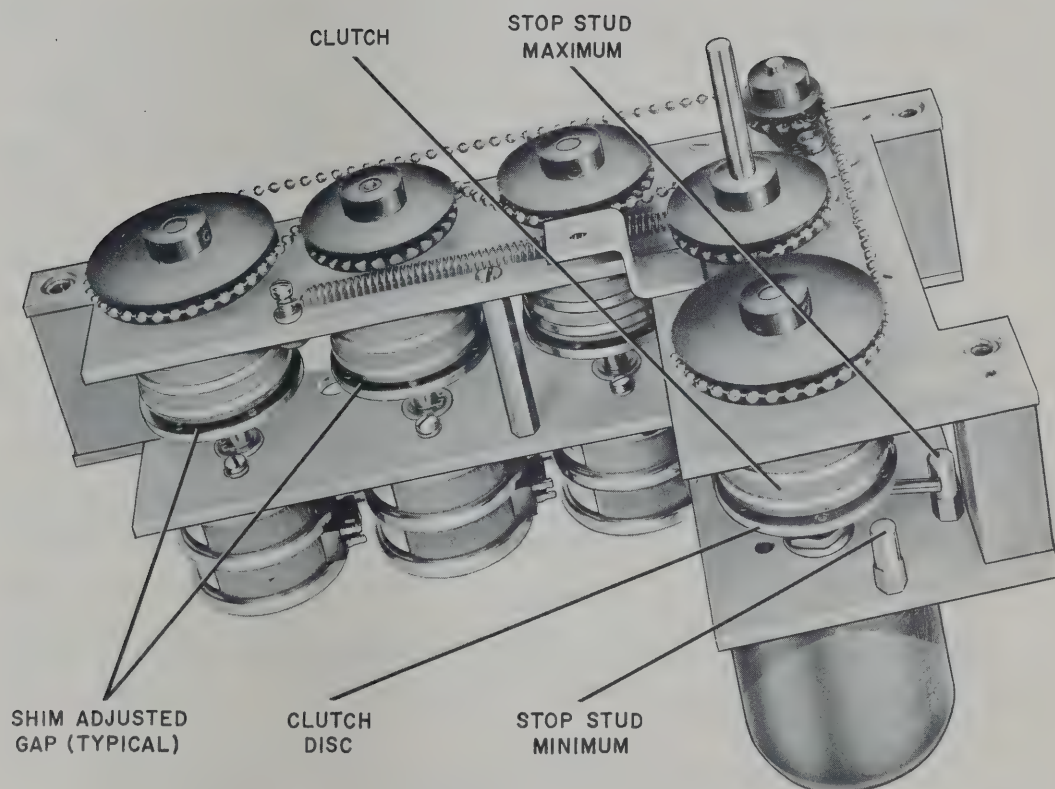

Figure 5-9. Magnetic Clutch Assembly Autotransformer Stops
b. Insert the G-235411 Shim (figure 1-4) between the clutch disc and clutch (figure 5-9).
5-26. The stop studs (figure 5-9) on the magnetic clutch assembly are provided so that, in conjunction with the pin projecting from the hub of the autotransformer clutch disc, the filament voltage adjustment range is limited to approximately $6.3 \pm .7$ volts. This should be sufficient to cope with variations in both line voltage and filament load, and insures that a minimum of 5.5 volts is applied during the "PREHEAT" interval. If insufficient range of autotransformer adjustment cannot be attained because the available line voltage is lower than 112 or higher than 122 volts a greater range may need to be provided. This is accomplished as follows: